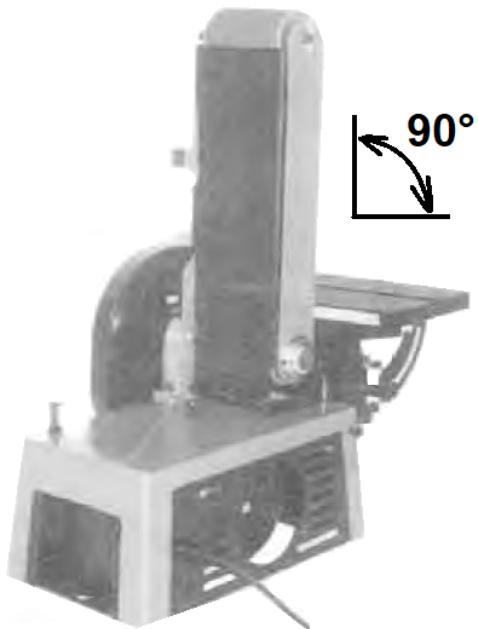

Figure 8-3: Set the table to exactly 90°
3. Set the work table in the exact 90 ° position to the sanding belt (Fig. 8-3).